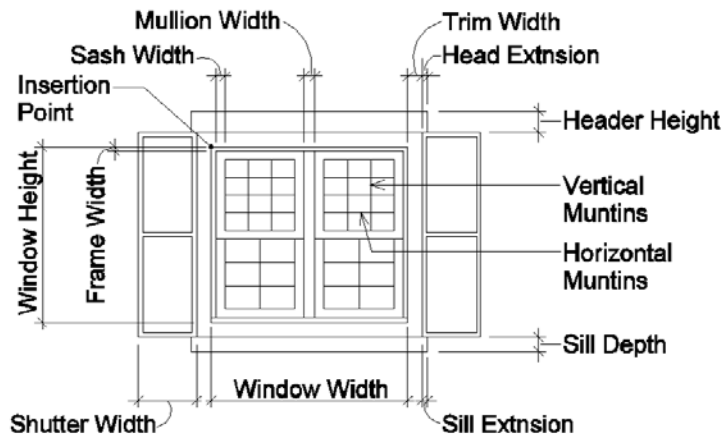

Figure 5-40: The window created with our settings.
To illustrate how to use the macro let's create two side-by-side double hung windows (see Figure 5-40), then save the window settings so we can create identical windows later by reloading them.
12. You will see a bounding box attached to your cursor. This represents the outline of the window frame as you defined it in the **Settings** menu. *Click* in the Drawing Window and the window will be drawn complete, as in Figure 5-40.